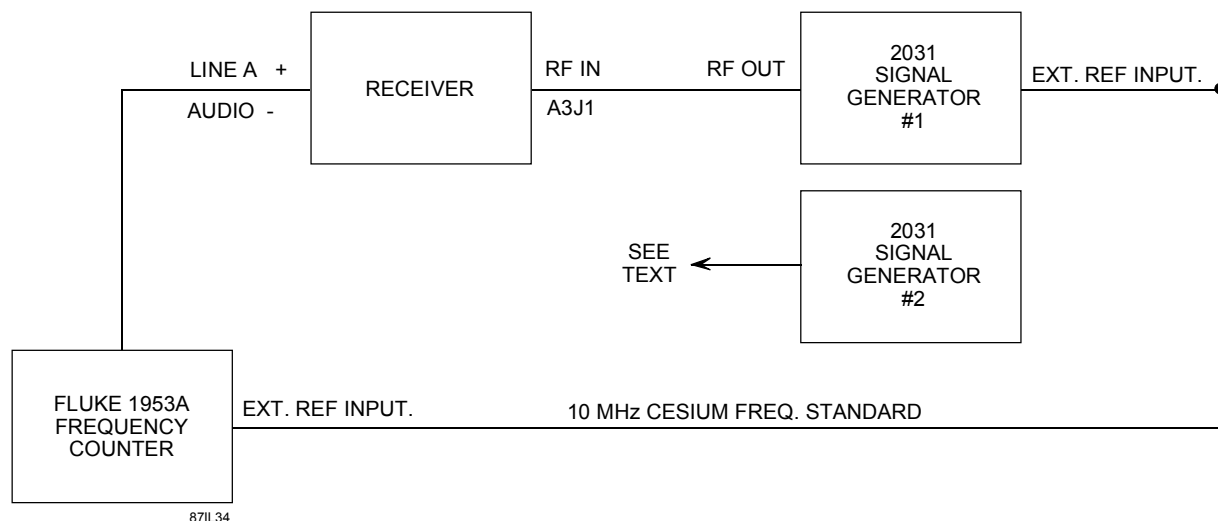

Figure 7-3. Reference Frequency Timebase Accuracy Performance Test Equipment Connection
1. Connect the WJ8711A Receiver and test equipment as illustrated in **Figure 7-3**. Apply power to the receiver and test equipment and allow a warm-up period of at least 30 minutes before proceeding with the timebase testing.